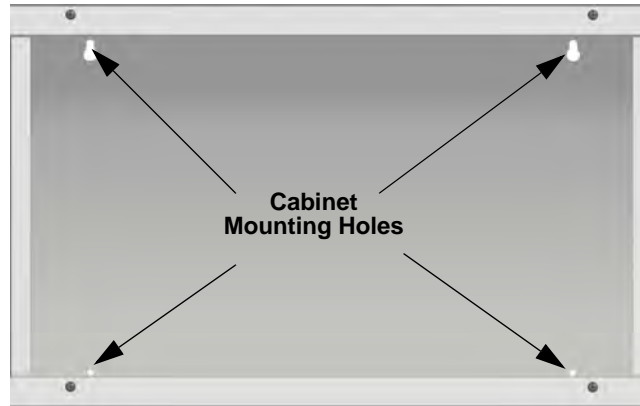

Figure 4.4 RBB or AB-55 Cabinet Mounting Holes
1. Mount the accessory cabinet. See Figure 4.4 for the four cabinet mounting holes.